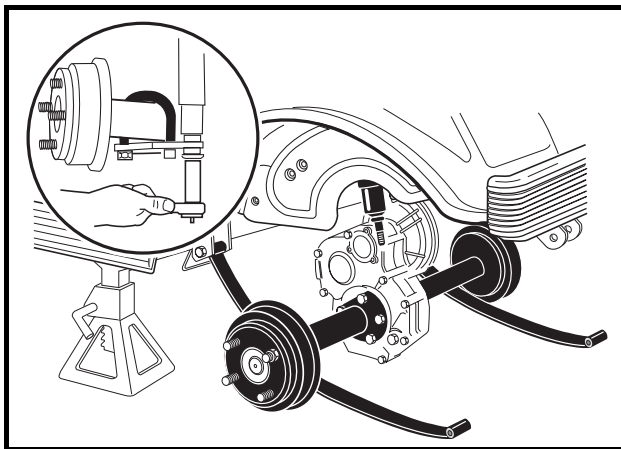

Figure 16-3 Lower Axle
6. Remove the nut, cup washer, and bushing from the bottom side of the shock absorber. Compress the shock absorber (pushing upwards) to move it out of the way (**Figure 16-3, Page 16-3**).
8. To gain easier access to the motor, lower the transaxle as low as it will go. If more room is needed, remove the jack from beneath the transaxle and allow the springs to rest on the floor (**Figure 16-3, Page 16-3**).